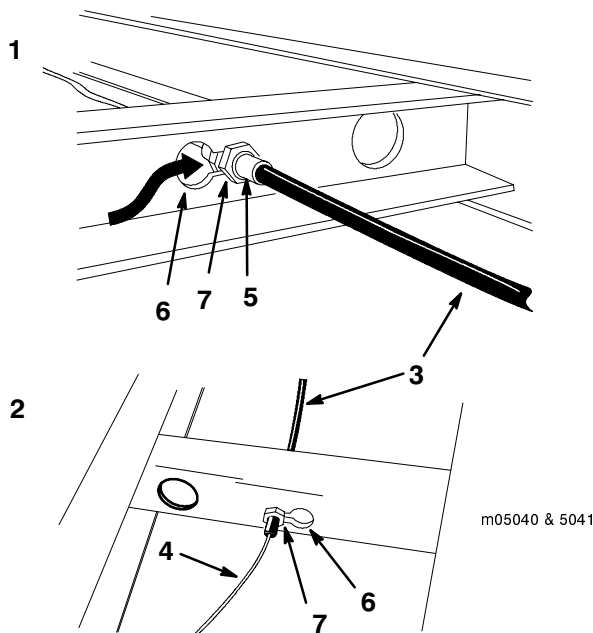

Figure 8
17. Slide the fitting through the slot and push it to the right, ensuring there is a jam nut on each side of the frame (Fig. 8).
18. Tighten the jam nuts (Fig. 8).